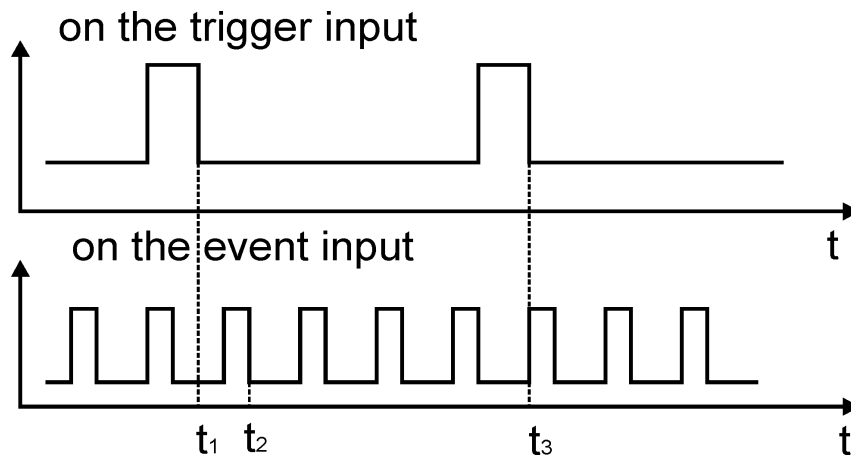

Figure 3: Measuring by the using of the trigger and event inputs of the trigger card (for the processed values)
*Explanation:* After the measurement is enabled (see the functions *IfmSetMeasurement* and *IfmStart*), the device observes the *trigger* input for the falling edge. If the edge appears (time point  $t_1$  on the Figure 3), the device will observe the *event* input for the falling edge. If it occurs (time point  $t_2$  on the Figure 3), the device will start the measurement with the current conditions for signal sampling and processing. The processed value will be sent to the PC. After them the device is waiting for the next falling edge on the *event* input and so on. As soon as the second falling edge was registered on the trigger input (time point  $t_3$  on the Figure 3), will be the measurement stopped. By the conditions shown on the Figure 3, the device output four measurement values.